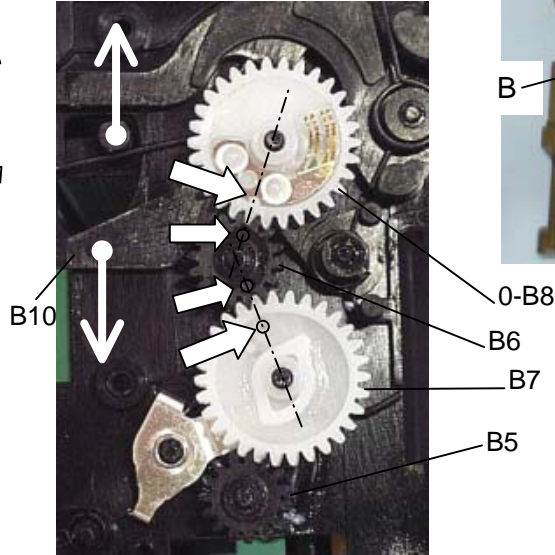

Fig.66
2. Hold 1st mirror sheet at top end position by finger, and then install B7, B6 and 0-B8 while positioning as shown in Fig.66.